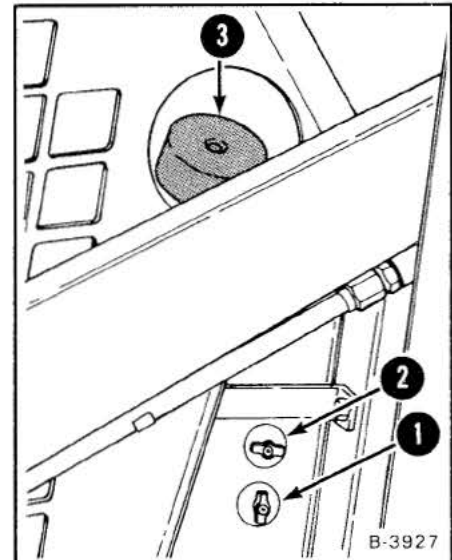

Fig. 66 Hydraulic Level Check
2. Open the bottom check valve on the side of the reservoir (Fig. 66, Item 1). The oil level is good if the oil level is between the top and the bottom check valve. If no oil flows, close the valve and proceed with step 3.
3. Open the top check valve (Fig. 66, Item 2). Remove the fill cap from the reservoir (Fig. 66, Item 3). Add oil to the reservoir until it flows at the top check valve. Close the valve and replace the fill cap.
4. Open the top check valve (Fig. 66, Item 2). Remove the fill cap from the reservoir (Fig. 66, Item 3). Add oil to the reservoir until the oil flows at the top check valve (approximately 3.5 gallons [13L]). Refer to "Specifications", page 59 for type of oil to use. Close the check valve and replace the fill cap. DO NOT fill above the top check plug level. Operate the loader hydraulic controls through all the hydraulic functions. Check the oil level again (See "Checking and Adding Oil").